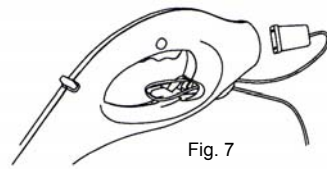

Fig. 7
2. Connect the female plug of the extension cord to the power cord connector. (Fig. 7)